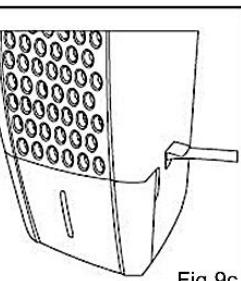

Fig 9c
- Reinsert the water bucket back in the unit and make sure that it is inserted securely.(Fig.9c)